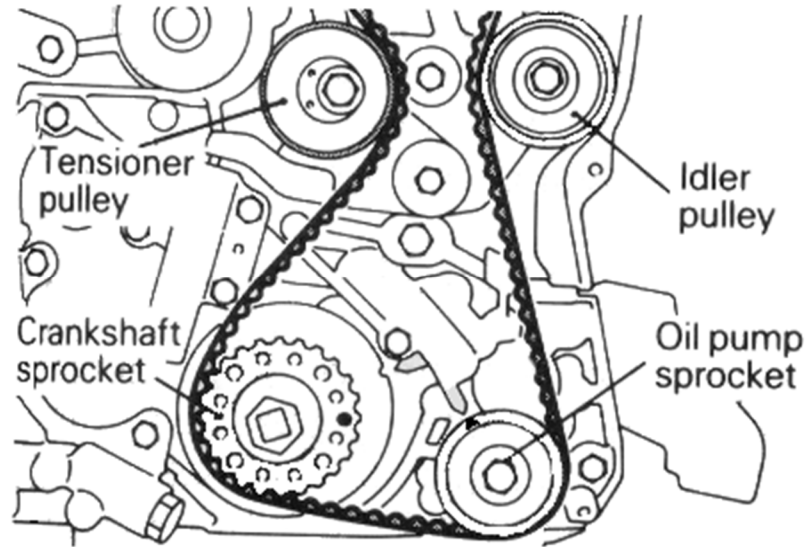

Figure 14
31. Position the timing belt around the idler pulley, oil pump sprocket, crankshaft sprocket and tensioner pulley (in that order) as shown in Figure 14.
**Oil Pump Sprocket Nut Replacement - obsolete via '94 TSB** - No longer deemed necessary to replace or even check oil pump sprocket nut. Probably a good thing to check anyway. Lubricate the threads and torque to 55 Nm (40 ft. lbs.) (Figure 14).